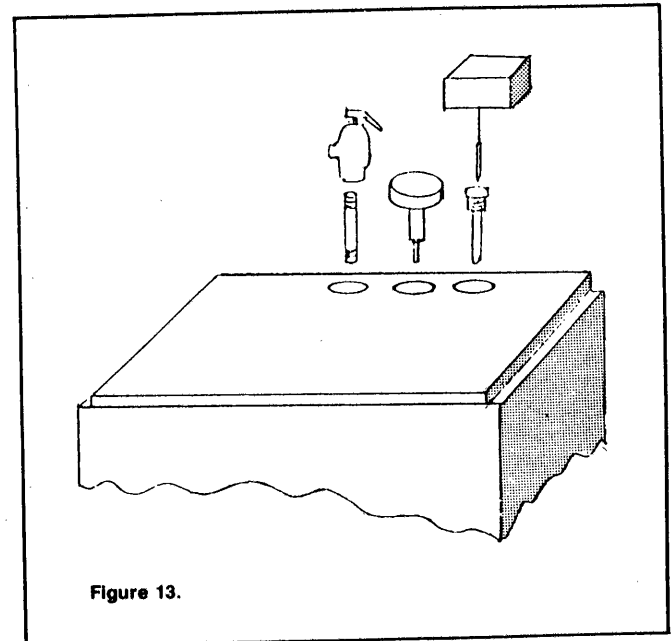

Figure 13.
Install in the tapings provided at the top rear of the boiler as shown in Figure 13.
- a) The pressure relief valve and temperature/pressure gauge are supplied with the boiler and should be mounted as shown in Figure 13.